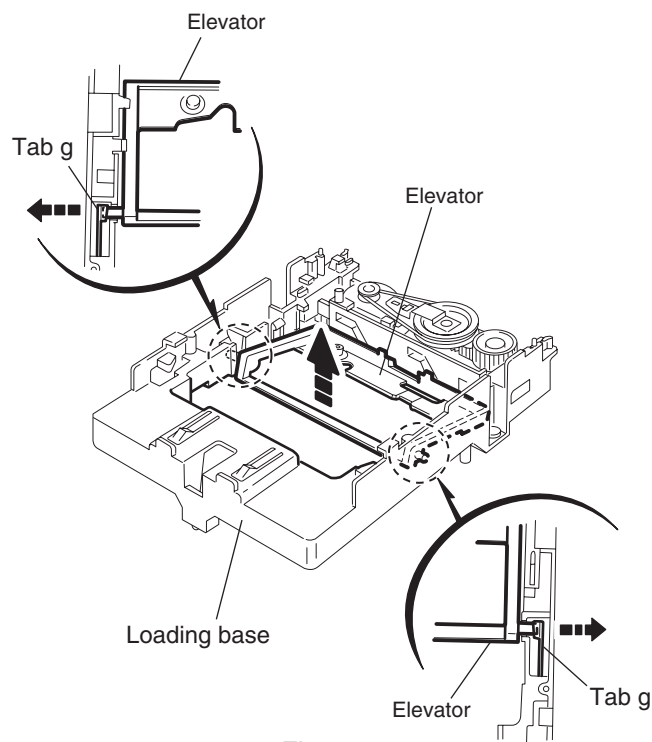

Fig.7
■ Removing the elevator (See Fig.7 and 8)